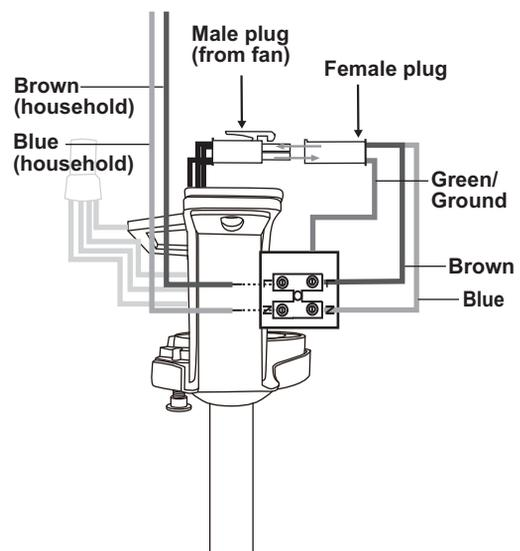

Figure 8
2. Be sure to snap together the male and female plugs. (Fig. 8)
3. Connect the blue, neutral household neutral wire to the terminal block "N" hole. Connect the brown household wire to the terminal block "L" hole. (Fig. 8)